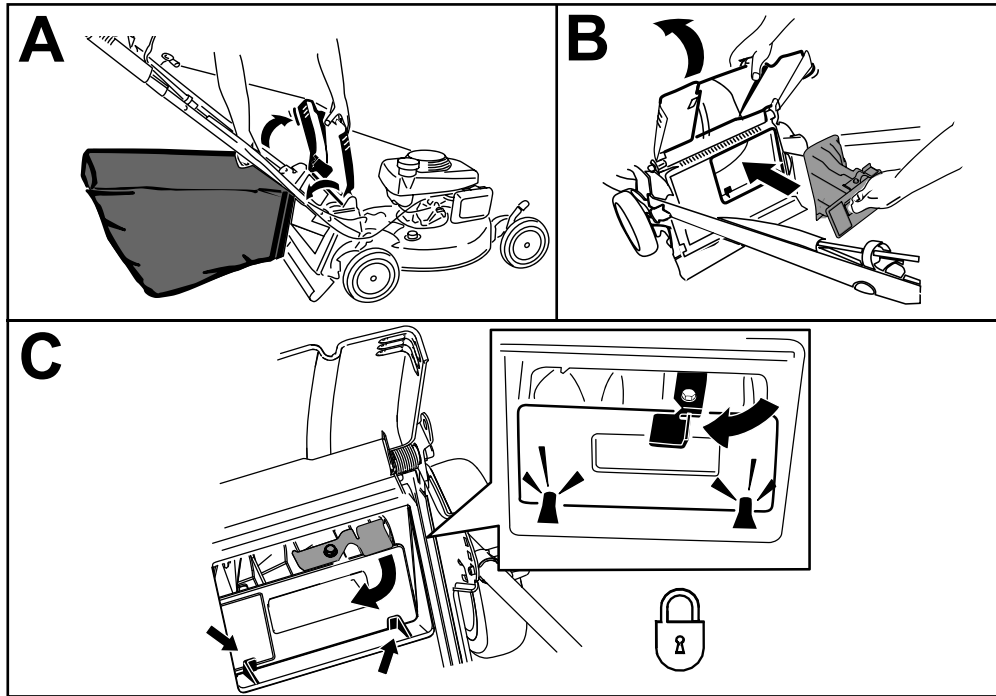

Figure 18
1. Raise and hold up the rear deflector and lift the grass bag up by the handle off the notches of the handle brackets (A of Figure 18).
2. Install the rear plug (B of Figure 18).
Important: Ensure that the rear plug is locked in place. To lock the plug, firmly push the plug in until it snaps into place behind the tabs, and rotate the lever on the plug to the left (C of Figure 18).